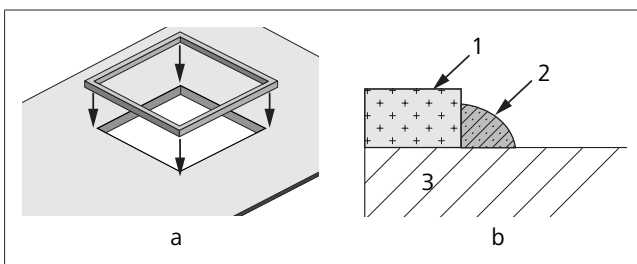
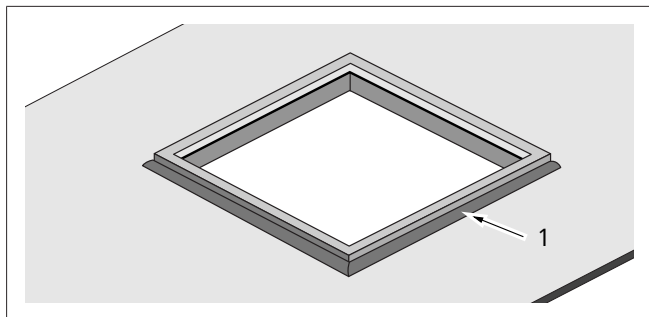

Fig. 14 CTT35_Mounting_the_gasket on a 360 x 360 cut-out (without an adaptor frame)
Fig. 15 Application of sealant (only applicable to a gasket on a 360x360 cut-out (without adapter frame))
1. Peel off the backing paper and stick the gasket onto the roof (360 x 360 cut-out). See Fig. 14-a and b.
3. Apply self-levelling RV roof sealant around the gasket to prevent leakage. See Fig. 14-b and Fig. 15.